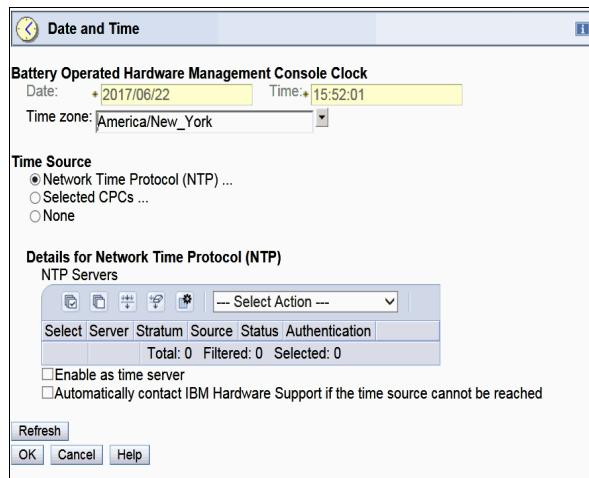

Figure 8-4 Customize Console Date initial window
2. The Date and Time window opens. Select **Network Time Protocol (NTP)** from Time Source (Figure 8-4).